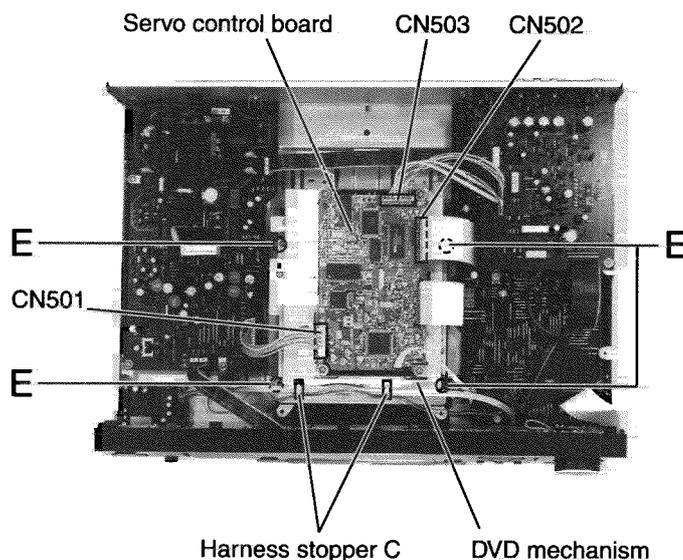

Fig.7
■ **Removing the DVD Mechanism (See Fig.7)**
■ **Removing the Servo Control (See Fig.7 and 8)**
2. Release the two harnesses from the harness stopper Cs on top of the DVD mechanism (See Fig.7).